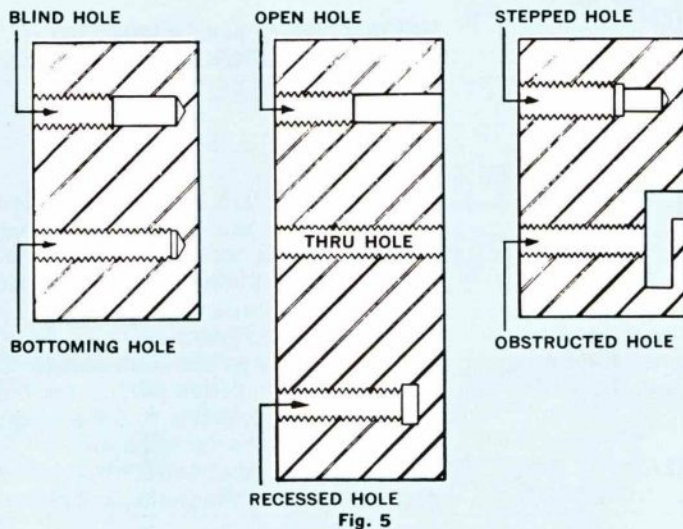

Fig. 5
with a change in diameter which limits the thread depth. (7) Through—A hole which passes through the workpiece and is threaded its full depth. (See Fig. 5)